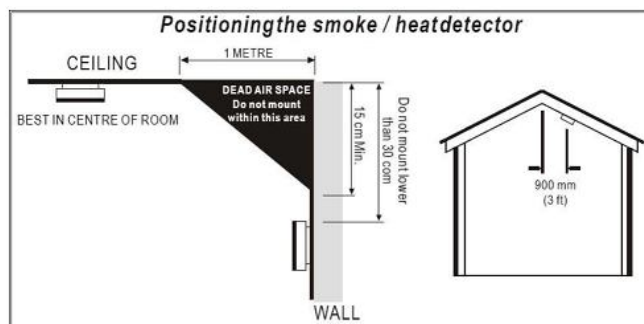

Figure 3
- (1) Because burning smoke particles that can cause Smoke alert action, so don't install the Smoke in poorly ventilated kitchens, garages, fireplaces, water heaters and furnaces.
- (2) Install the Smoke should be avoided more than 6 metres from the above location. If we do not meet these requirements, you should try to choose the installation location of little contact with the burned micro-particles, and maintaining good ventilation.
- (4) Do not install the Smoke in the operating temperature range (-10 °C ~ 50 °C) outside the environment.
- (6) Do not install Smoke dust-intensive sites, otherwise it will affect the sensitivity of the Smoke and cause a false report, and may plug the stainless steel strainer.
- (7) Do not install in ventilation clear environment, such as air conditioners, fans, ventilation near the road, or take smoke into the Smoke of fires caused by the airflow is not easy.
- (8) Pitched roofs, and ceilings on the top floor, and wall junction, often air stagnation, is not easy to measure the smoke. See Figure 3 indicates the correct installation location.